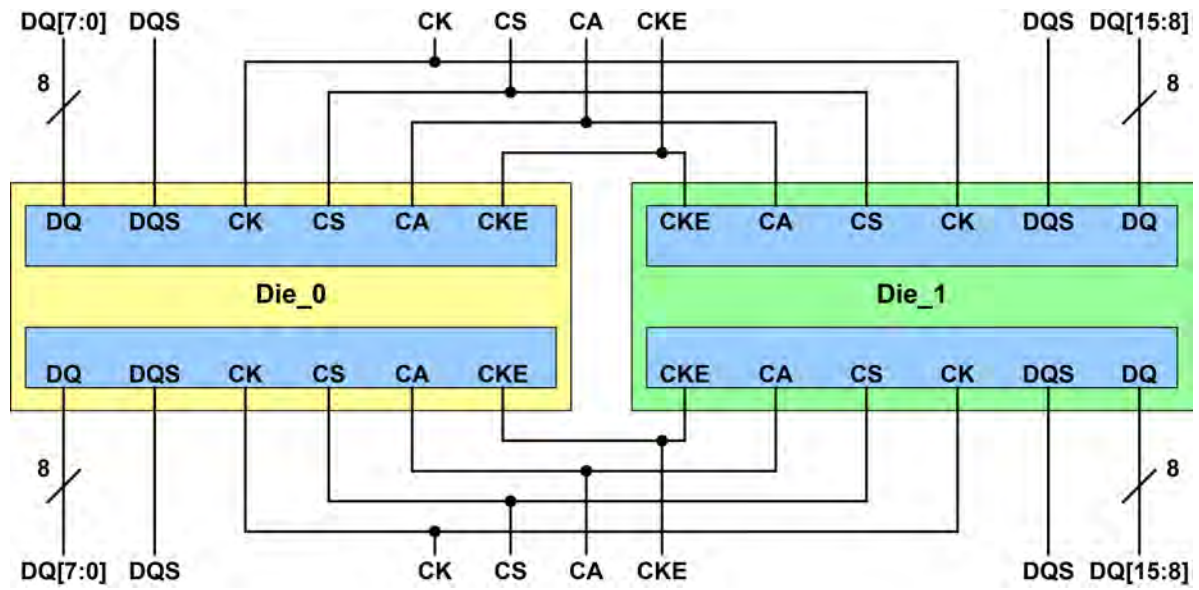

Figure 4 - Dual channel die configuration example
- For system configurations where the CK, CS, and CA signals are shared between packages, the package design should provide for the ODT_CA ball to be bonded on the system board outside of the memory package. This provides the necessary control of the ODT function for all die with shared Command Bus signals. See Figure 4.